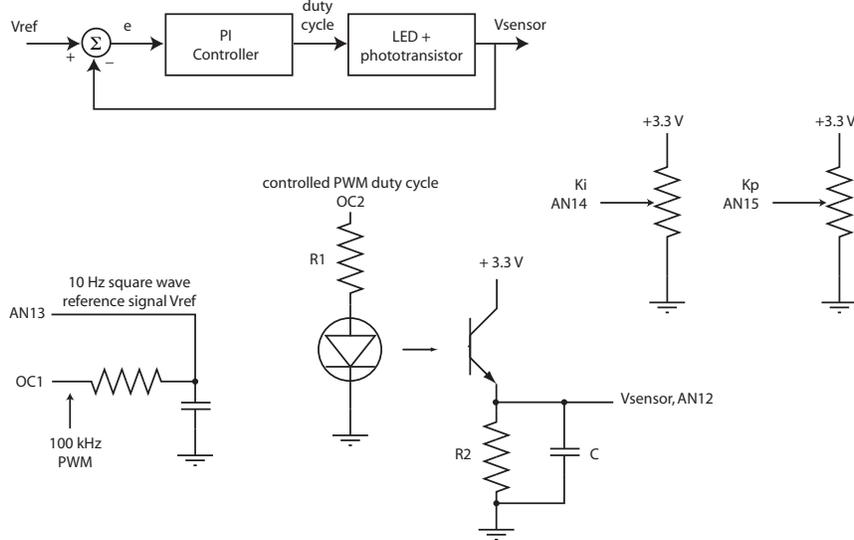
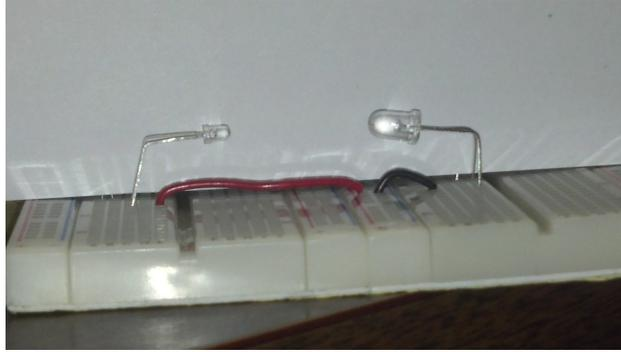

Figure 2: The circuit and control loop you will implement.
Figure 3: A picture of the phototransistor (left) and LED (right). A sheet of paper was added to make the pair more visible in the picture.
1. Wire terminals 1 and 3 of a potentiometer to 3.3 V and ground. Connect terminal 2, the output from the wiper, to pin AN15 on the PIC32. This will serve as our eventual input for K_p (see Figure 2).
find pictures of these parts and their datasheets on the What is in the NU32 Kit wiki page. In your circuit, use $R1 = 100 \Omega$, $C = 0.1 \mu\text{F}$ ³, $R2 = 10 \text{ k}\Omega$ (see Figure 2). There is nothing to hand in for this section.
1. Wire the circuit shown in Fig. 2 for the LED and phototransistor. For the LED, the *cathode is the shorter lead*⁴. For the phototransistor, the *shorter lead is the collector*. From a practical wiring perspective (Figure 3), the LED and the phototransistor should be placed about 1.5 to 2 inches apart (we counted 16 holes separating the two in our breadboard). They should both be bent to point “towards” each other.
3. Wire the output of the phototransistor circuit (V_{sensor} in Figure 2) to AN12.